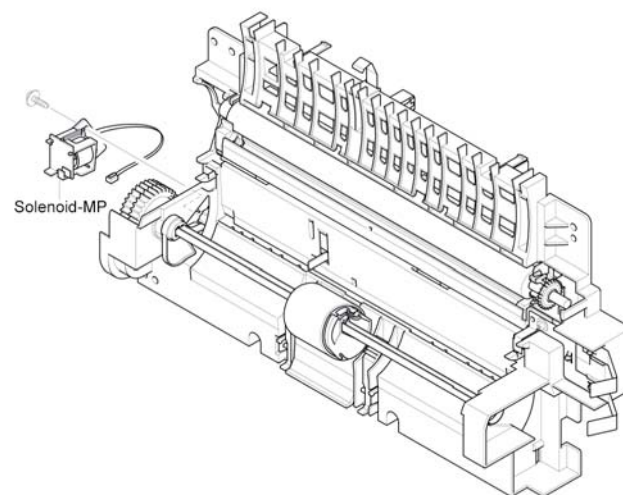

Figure 3
7. Remove the screw securing the solenoid-MP and remove it, Figure 3.